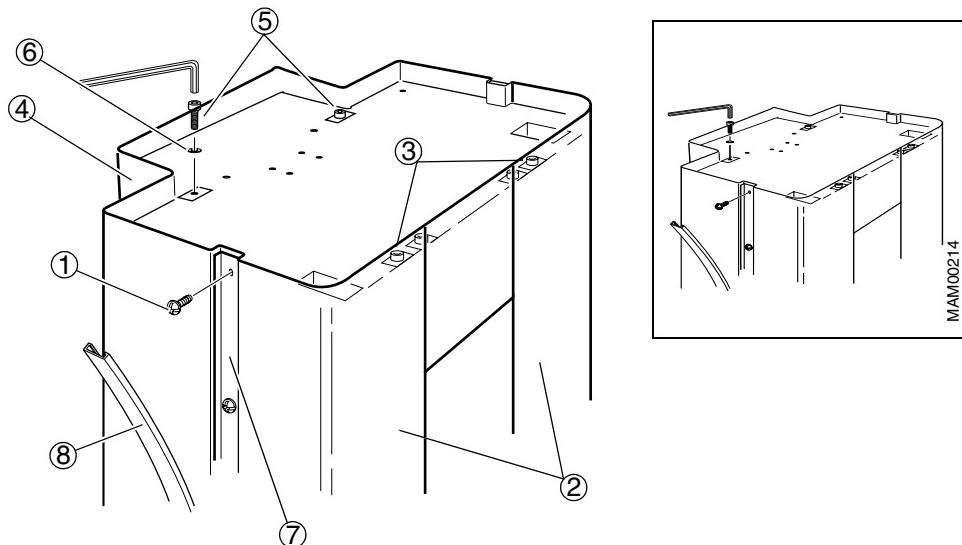

Fig. 3 Mounting the stand covers on a stand with single rear cover.
2. Make sure that clips are positioned over the holes where the screws (1/Fig. 3) are to be fastened. These clips enable the screws to fasten the covers.
3. Fit left and right front covers (2/Fig. 3) to the stand and fasten with screws and contact washers (3/Fig. 3).
4. Fit the rear cover (4/Fig. 3) to the stand and fasten it with screws (5/Fig. 3) and contact washers (6/Fig. 3).
5. Fit the inner plastic strip (7/Fig. 3) to the front and side covers and fasten with screws (1/Fig. 3), eight on either side.
6. Press on the outer plastic strip (8/Fig. 3).